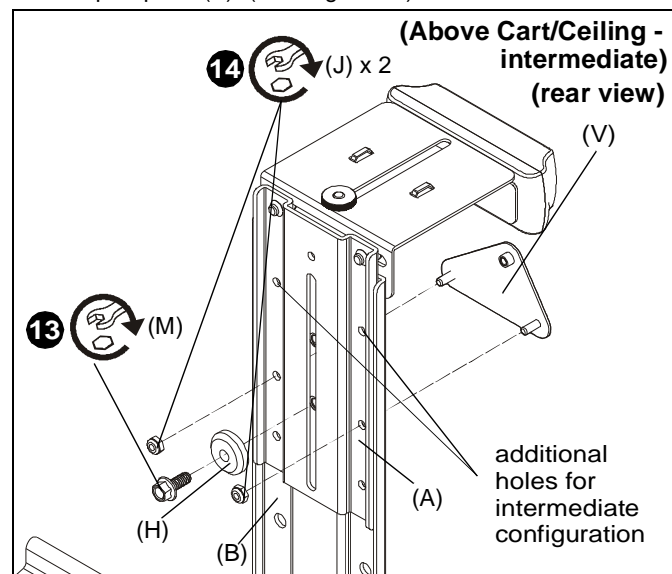

Figure 30
13. (For **Intermediate extension**) Use 1/4-20 x 5/8" hex head flange bolt (M) and center washer (H) to secure upright bracket (A) to main bracket (B). (See Figure 30)
14. (For **Intermediate extension**) Use two #10-24 lock nuts (J) to secure upright bracket (A) to main bracket (B) and adapter plate (V). (See Figure 30)